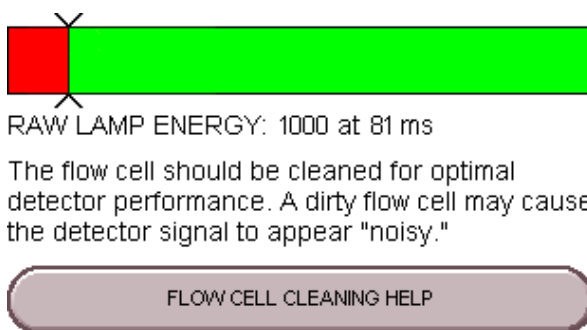

Figure 5-3 Raw lamp energy gauge
- Frequent messages recommending flow cell cleaning (Figure 5-3).
When the lamp energy is lower than normal, the system will recommend flow cell cleaning (Figure 5-3) before starting a separation run.
2. From the MANUAL CONTROL window, note the Raw Lamp Energy level at 254 nm. The Raw Lamp Energy gauge has two ranges: red and green. (Figure 5-3),
If the numerical values of the Raw Lamp Energy (Figure 5-3) do not change, or if the first number remains at zero, contact Teledyne ISCO's Technical Service department.
10. Perform the QUICK CLEANING AS REQUIRED (Section 5.4.2 and monitor the Raw Lamp Energy. (Figure 5-3)